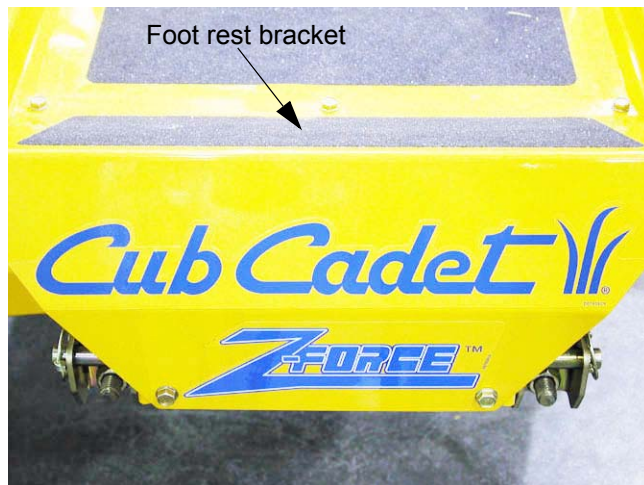

Figure 13.5
13.5. If the pivot bar is to be removed, the foot rest bracket must be removed first, using a pair of 1/2" wrenches. See Figure 13.5.